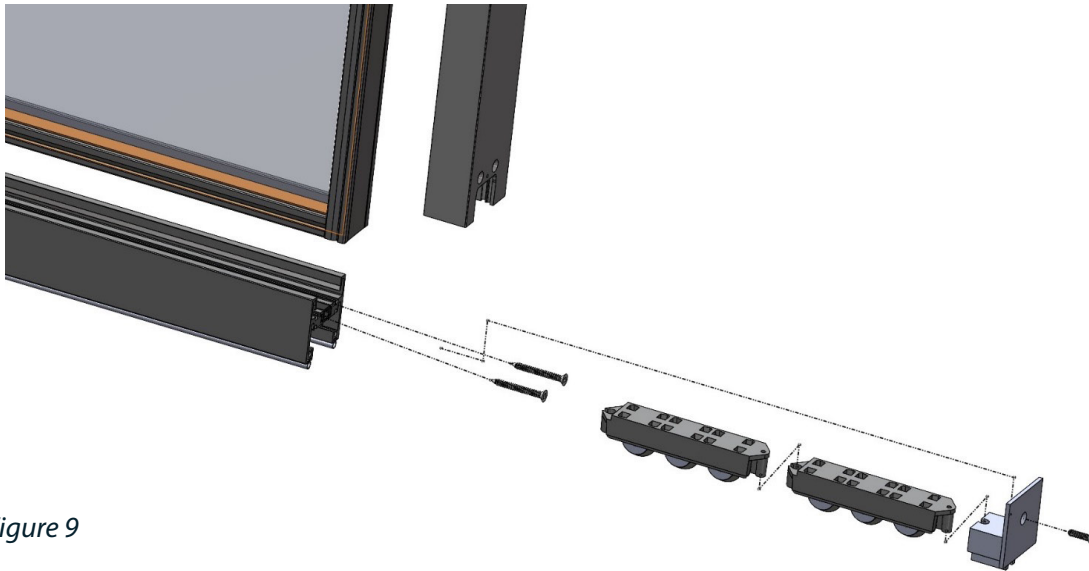

Figure 9
7. If needed and for adjustment, the roller assembly can be shimmed individually or per side with supplied shim stacks. Each shim is .015" thick and up to three (3) roller shims per roller assembly can be used. Once the roller assembly is set into the panel, continue with the opposite side.
10. Identify the roller assembly and connect by sliding one (1) roller assembly onto the other. Repeat this step for all required rollers. Once all rollers are installed, slide the end sweep onto the roller assembly and set roller assemblies in front of panel.
11. Taking care not to scratch or shift the lead panel over. With a pry bar, lift the panel high enough to slide the roller assembly into place. Ensure that all rollers rest onto the track cap and roll freely. (See Figure 9)